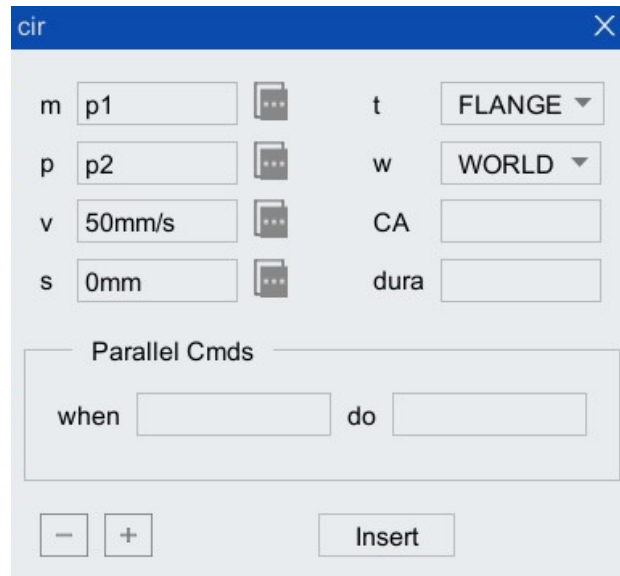

Figure 5-25 "cir" Instruction configuration interface
Step1. Click "Insert Cmd > Motion instruction > cir" option in the toolbar of "Program editor", and the "cir" instruction configuration interface as shown in Figure 5-25 will pop up.
Step6.Click the <Insert> button in Figure 5-25, and the instruction is inserted successfully.